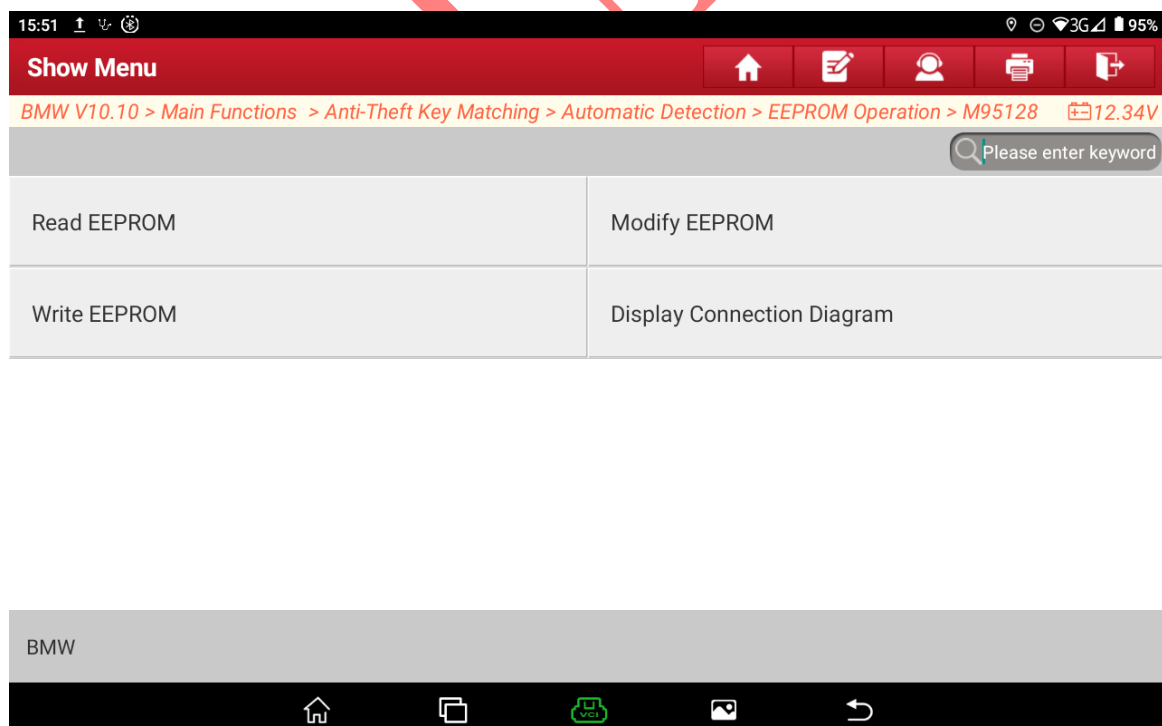

Figure 18
18. Select [Modify EEPROM], load the original vehicle EEPROM for modification, and save the new EEPROM file, as shown in Figure 18.